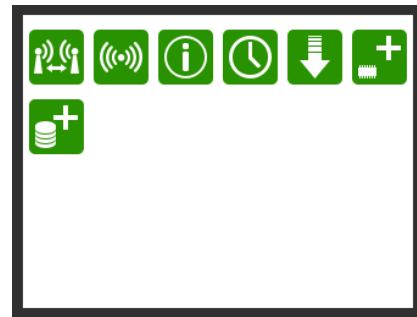

Figure 6-9 Start screen
1. In the screen (Figure 6-9) press